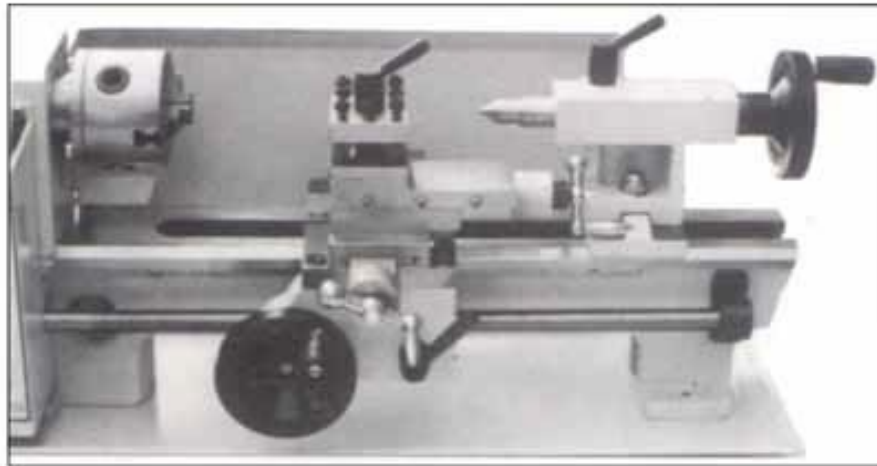

Fig.5
5. Check the compound rest crank and the cross feeding crank to see that they work properly if too tight or too loose, turn the adjusting screws located at both sides. (Fig.5)